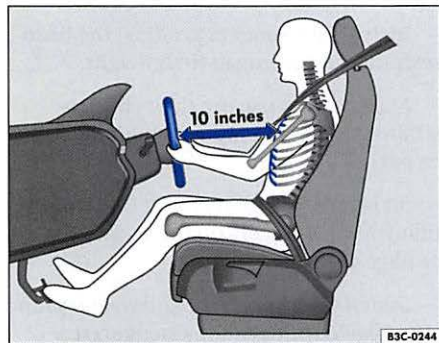

Fig. 1 There must be a distance of at least 10 inches between the driver and the steering wheel.
- Adjust the steering wheel so that there is a distance of at least 10 inches (25 cm) between the steering wheel and your breast bone ⇒ **fig. 1**. If not possible, see your authorized Volkswagen dealer or qualified workshop about adaptive equipment.